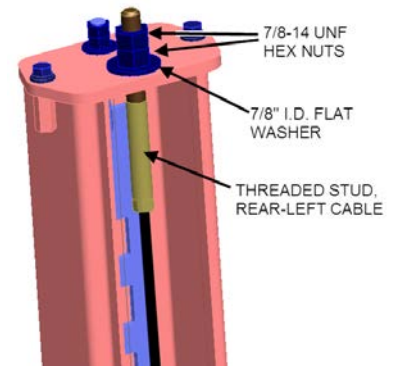

Figure 48
- Anchor threaded end of the rear left cable into the top plate of the rear left tower (**Fig.48**). Use one 7/8" ID flat washer and two 7/8-14 UNF hex nuts (see hardware kit).
- Anchor threaded end of the rear right cable into the top plate of the rear right tower. Use one 7/8" ID flat washer and two 7/8-14 UNF hex nuts (see hardware kit). Refer to **Fig.48**.